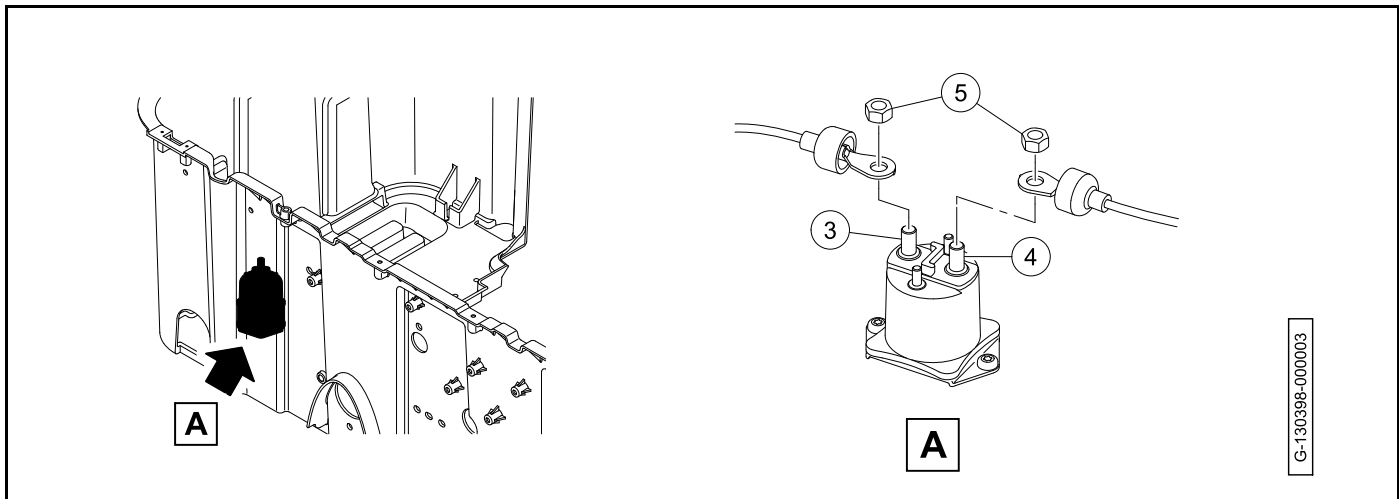

Figure 20-20 Solenoid Large Posts
2. Install the two screws (2). Tighten the screws to 31 lb·in (3.5 N·m).
3. Connect the white wire to the large post (3) on the solenoid (**Figure 20-20, Page 20-20**).